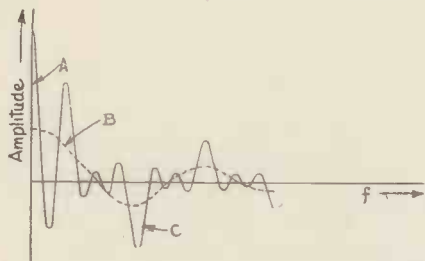

Fig. 13. — Frequency distribution of three pulses of wave shown in Fig. 11.
quency distribution as shown in Fig. 13, which ultimately, in the case of one pulse only, develops into the same curve as that shown in Fig. 8 (August issue), or in the dotted curve of Fig. 13.
sinusoidally-shaped pulses. That part of Fig. 13 marked A would correspond to the transmission of the term $E/2$ in (8), that marked B to the transmission of